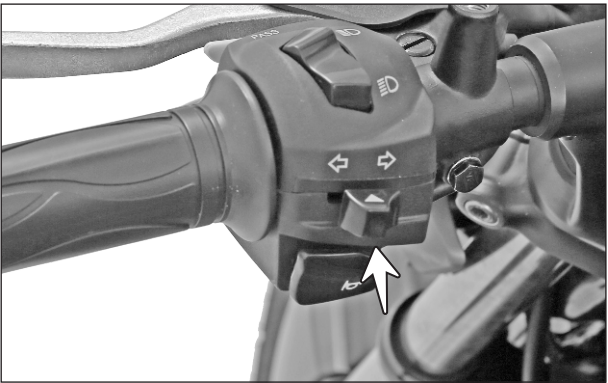

Fig. 5.27
- The switch turn signal is located on the switch assembly handle LH. (Fig. 5.27)